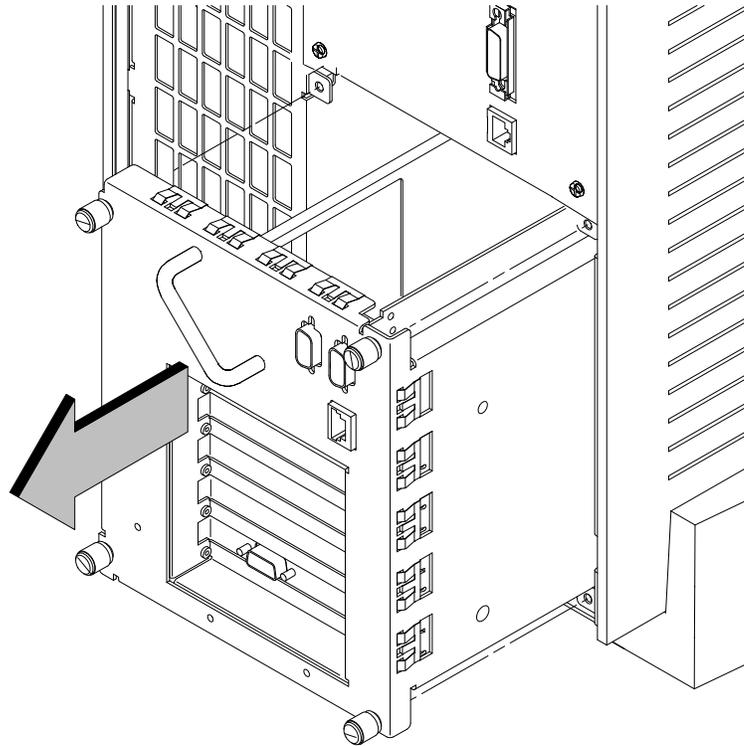

Figure A-32. Removing the EISA Assembly
1. Working from the rear of the workstation, unscrew the four captive screws and pull the EISA Assembly straight out using the handle. See Figure A-32.